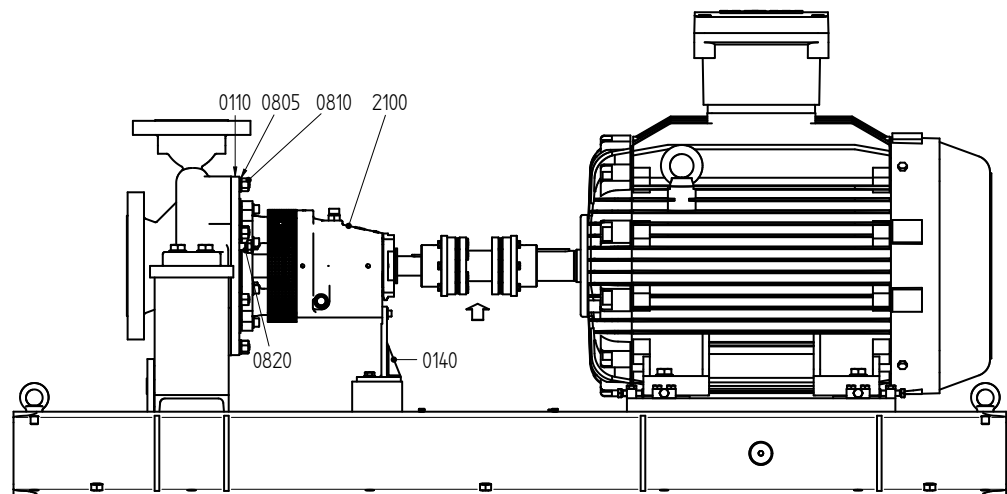

Figure 8: Back-Pull-Out principle.
- 3 Loosen the bracket support (0140) from the base plate, see figure 8.
- 6 Remove the coupling half from the pump shaft and remove the coupling key (2210).
- 4 Fit the coupling key (2210) and fit the coupling half onto the pump shaft.